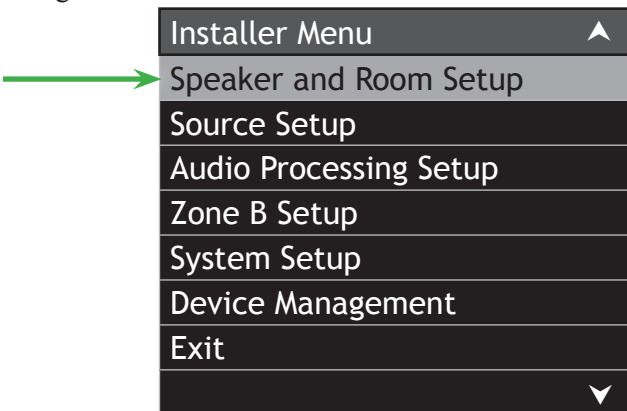

Figure 1
3. Select the “Speaker and Room Setup” from the Installer Menu. Then select “Speaker Configuration” from the Speaker and Room Setup Menu. Refer to figures 1 and 2.